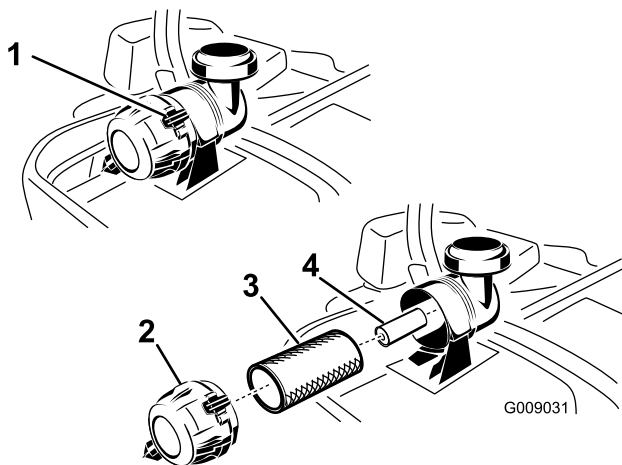

Figure 45
3. Push down to release the retaining clamps on the air cleaner, and pull the air-cleaner cover off the air-cleaner body (Figure 45).
5. Gently slide the primary filter out of the air-cleaner body (Figure 45). Avoid knocking the filter into the side of the body.
1. Do not clean the paper filter, replace it (Figure 45).
2. If the secondary filter is being replaced, carefully slide it into the filter body (Figure 45).
3. Carefully slide the primary filter over the secondary filter (Figure 45).
5. Install the air-cleaner cover with the breather cap down, and rotate so the retaining clamps lock the cover in place (Figure 45).